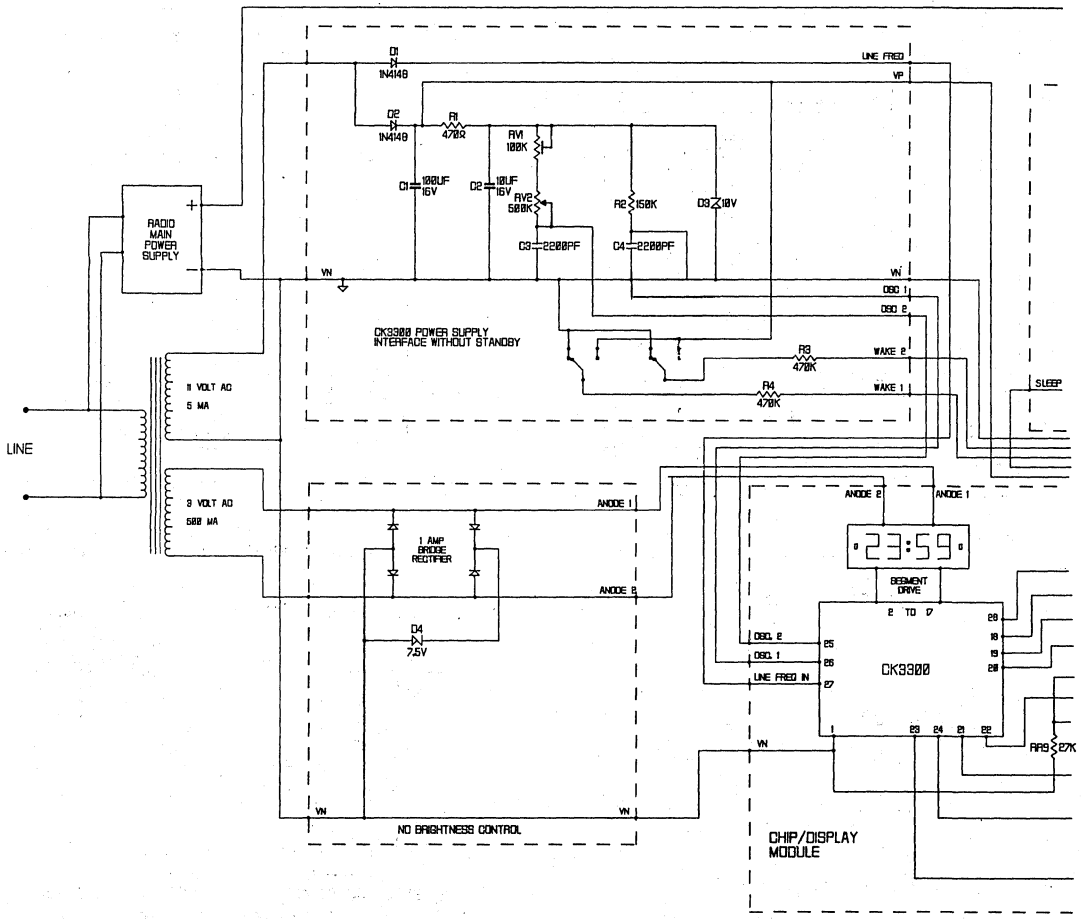

Fig.21(a) TYPICAL "BASIC" CLOCK RADIO CIRCUITRY
Fig.21 shows - the facility for automatically switching on an appliance (e.g. tape recorder) at a specific time and keeping appliance active for a period of time up to 120 mins. In this mode the wake output is made to start the sleep - timer at the wake time.
1. Automatic tape recording (Fig.21)
2. Appliance switching with delayed alarm (Fig.21)
3. Wake to normal radio with 5 minute alarm over-ride (Fig.21)
4. Wake to quiet radio with 5 minute alarm over-ride (Figs. 21 and/or 22)
5. Ratio muting during normal radio listening (Figs.21 and /or 22)